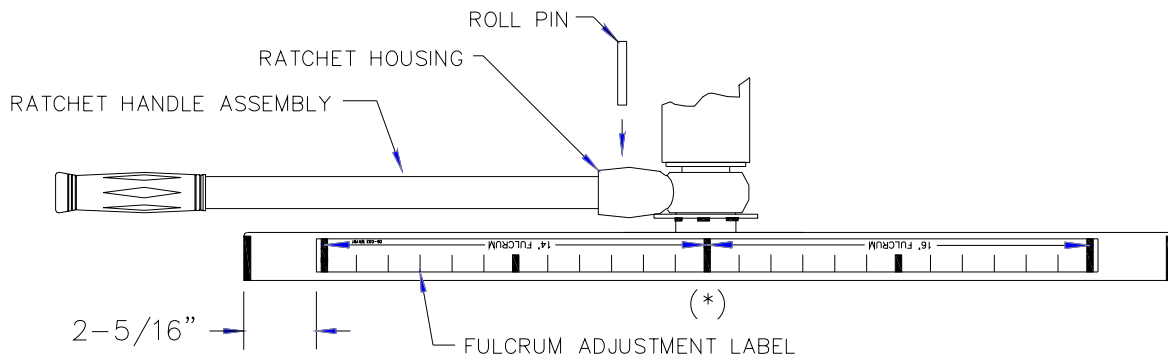
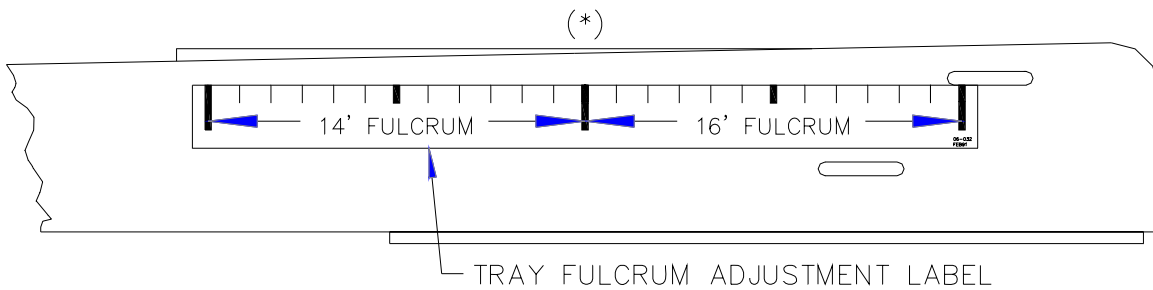

FIG. 15
FIG. 16
- ① GEAR RACK ASSEMBLY
- ② FULCRUM AXLE ASSEMBLY
- ③ 3/8"-16UNC X 2" HEX HEAD CAP SCREW S/S
- ④ 3/8" X 7/8" NYLON PROTECTIVE WASHER
- ⑤ 3/8" X 7/8" FLAT WASHER S/S
- ⑥ 3/8" LOCK WASHER, SPLIT S/S
- ⑦ 3/8"-16UNC HEX NUT S/S
12. Stick the Fulcrum Adjustment Label over the Gear Rack Cover as shown in Fig. 15. Insert the Ratchet Handle Assembly into the Ratchet Housing and tap roll pin through the holes to secure.
13. Stick the Tray Fulcrum Adjustment Label on the right outside wall of the Tray as shown in Fig. 16 with the centerline of the Tray Fulcrum Adjustment Label (\*) aligned with the centerline of the Fulcrum Adjustment label (\*) as indicated in Fig. 15.